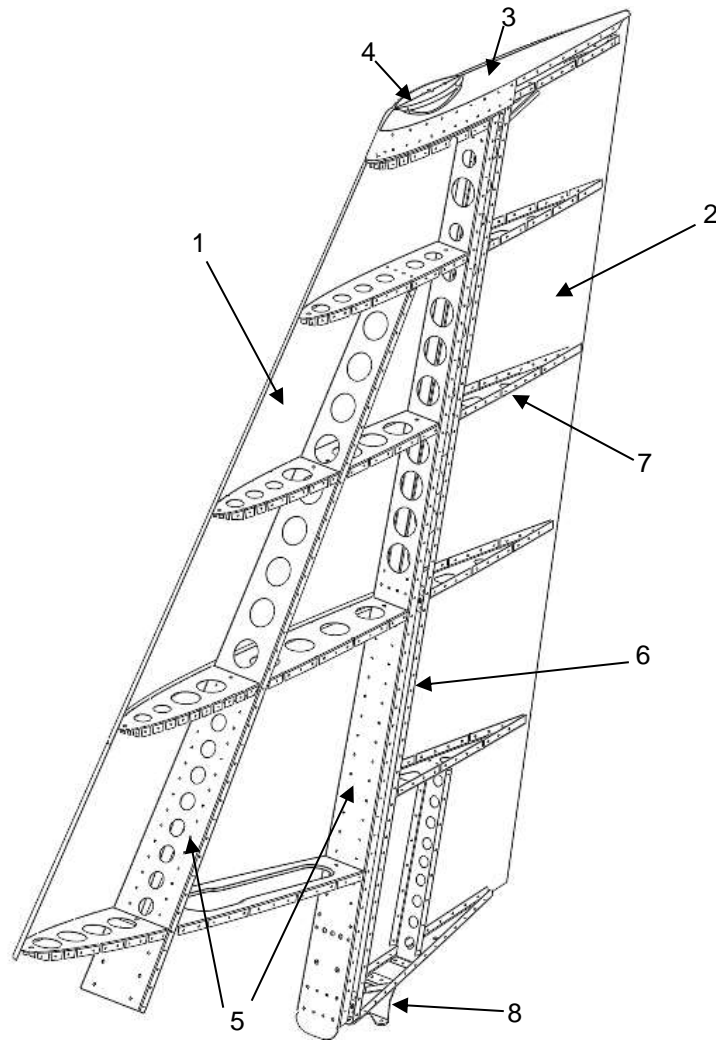

Figure 32: Vertical tail and rudder.
Refer to Figure 32. The vertical (1) stabiliser and rudder (2) consist of all-metal light alloy structures. The rudder horn (3) extends to the vertical stabilizer leading edge and has a composite tip on which navigation lights (4) and an aerial may be fitted. The vertical stabiliser consists of twin spars (5) with wrap-around stressed skin panelling. An attachment plate secures the vertical stabiliser's front spar to a bracket attached to the penultimate tail cone rib. The rudder consists of a spar (6) with formed sheet metal ribs (7) and sheet-metal skin. The rudder rotates / deflects around three hinges. Rudder control is affected by steel cables attached to a control horn (8) on the bottom edge of the rudder and running (with a cross-over) to two control horns attached to the rudder pedal axles. A balancing rudder mass is placed under the leading edge of the rudder horn, on the top rudder rib.